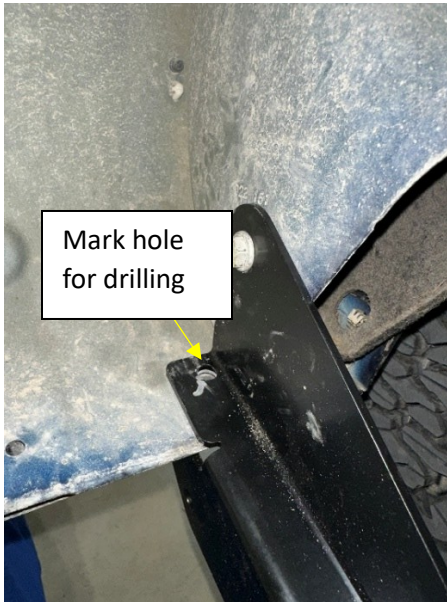

Figure 3
3. Loosely reinstall your rear flare extension and mark a drill hole using the bottom hole on your AEV Splash Guard Bracket as a template (Figure 3).